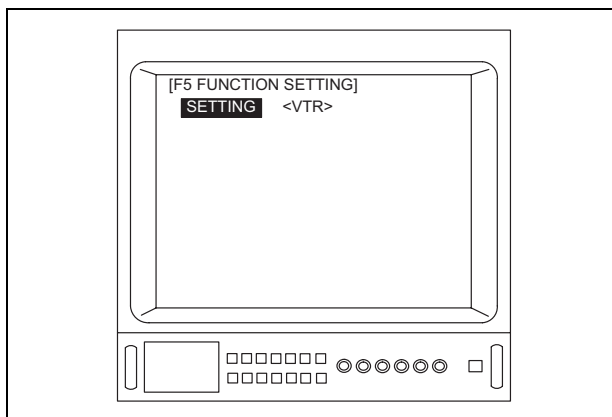

Figure 5.64
2. Depress the menu switch “↵” or the “Enter” key on the keyboard to adjust the “SETTING” (see Figure 5.64).